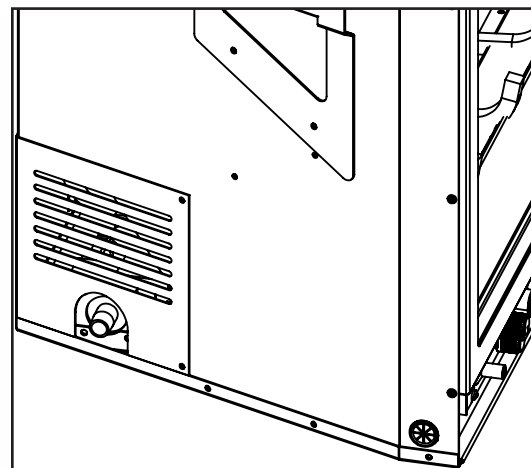

Figure 34: $\frac{3}{8}$ " NPT Male Pipe Nipple with Cover Attached.
- A $\frac{3}{8}$ " NPT male pipe nipple (supplied with the unit) will have to be turned into the valve at the lower left side rear of this fireplace (see Figures 34 and 35). Consult the local authorities for local codes or use the CAN/CGA B149 (1 or 2) installation code in Canada. In the US, gas installations follow either local codes or the current edition of the National Fuel Gas Code ANSI Z223.1.
1. The adjustment screw can be reached through the front of the unit using a 10 inch long blade head screw driver (see Figure 34 for location on valve).